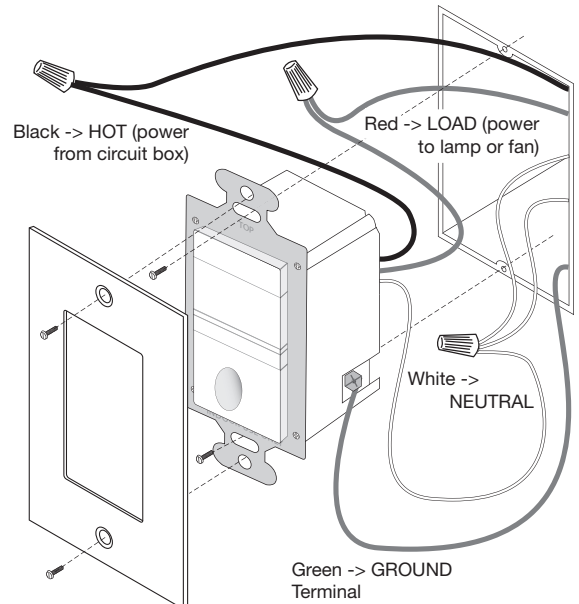

Fig 4: Sensor orientation, wire connections and wall box assembly
5. Twist the existing wires together with the wire leads on the RS-150BA-N sensor as indicated below. Cap them securely using the wire nuts provided. See Fig 4.